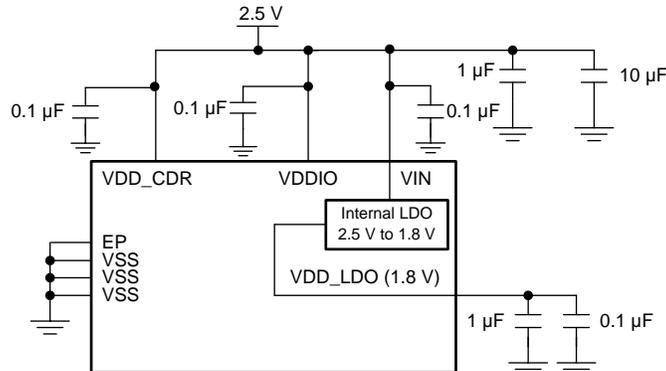
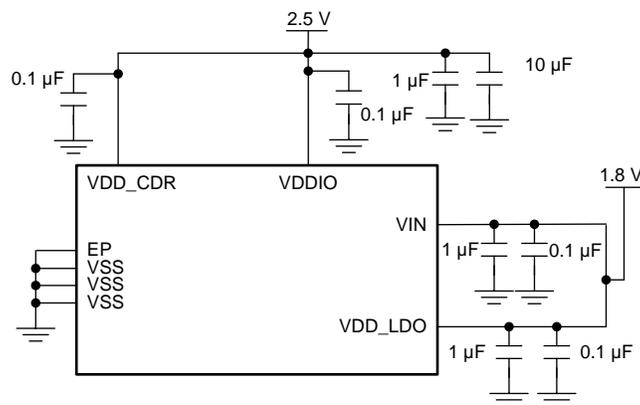

Figure 27. Typical Connection for Single 2.5 V Supply
Figure 28. Typical Connection for Dual 2.5 V and 1.8 V Supply
The LMH1226 is pin compatible with LMH1219 (12G UHD cable equalizer with integrated reclocker). Both LMH1219 and LMH1226 devices support Single Supply Mode and Dual Supply Mode as shown in 图 27 and 图 28, respectively.
- **Single Supply Mode (2.5 V):** This mode offers ease of use, with the internal circuitry receiving power from the on-chip 1.8 V regulator. In this mode, 2.5 V is applied to VDD\_CDR, VIN, and VDDIO. See Figure 27 for more details.
- **Dual Supply Mode (2.5 V and 1.8 V):** This mode provides lower power consumption. In this mode, 1.8 V is connected to both VIN and VDD\_LDO. VDD\_CDR, and VDDIO are powered from a 2.5 V supply. See Figure 28 for more details.